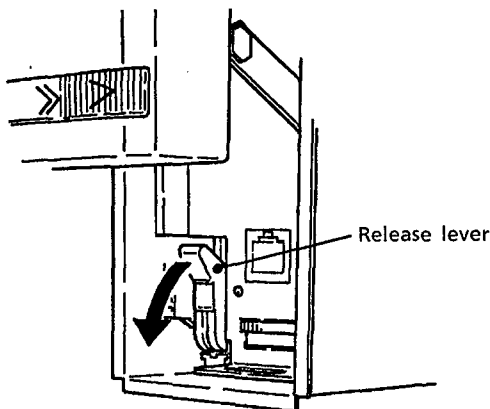

Figure 3.7 Removing the Internal Unit 1
- ① Swing up the front panel (see Section 3.2 “Swinging the Front Panel Up and Down”).
- ② Pull down the release lever (see Figure 3.7). The connector part at the back comes off.